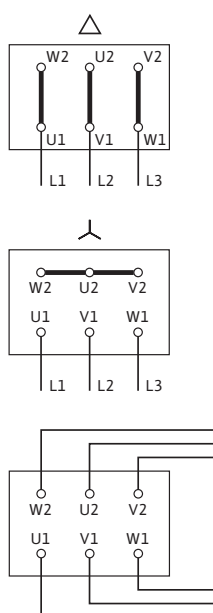

Fig. 17: Mains connection
The connection diagram for electrical connections is in the cover of the terminal box cover (see also Fig. 17).
- The mains connection is dependent on the motor power  $P_2$ , the mains voltage and the activation type. The recommended switching arrangement of the connection bridges in the terminal box should be taken from the following list "Table 4: Connection terminal assignment" on page 45 and Fig. 17.